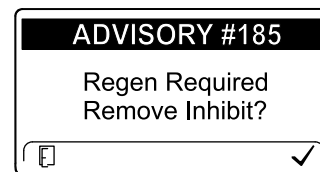

Figure 46
**Note:** If you set the InfoCenter to inhibit regeneration, the InfoCenter displays ADVISORY #185 (Figure 46) every 15 minutes while the engine requests a reset regeneration.